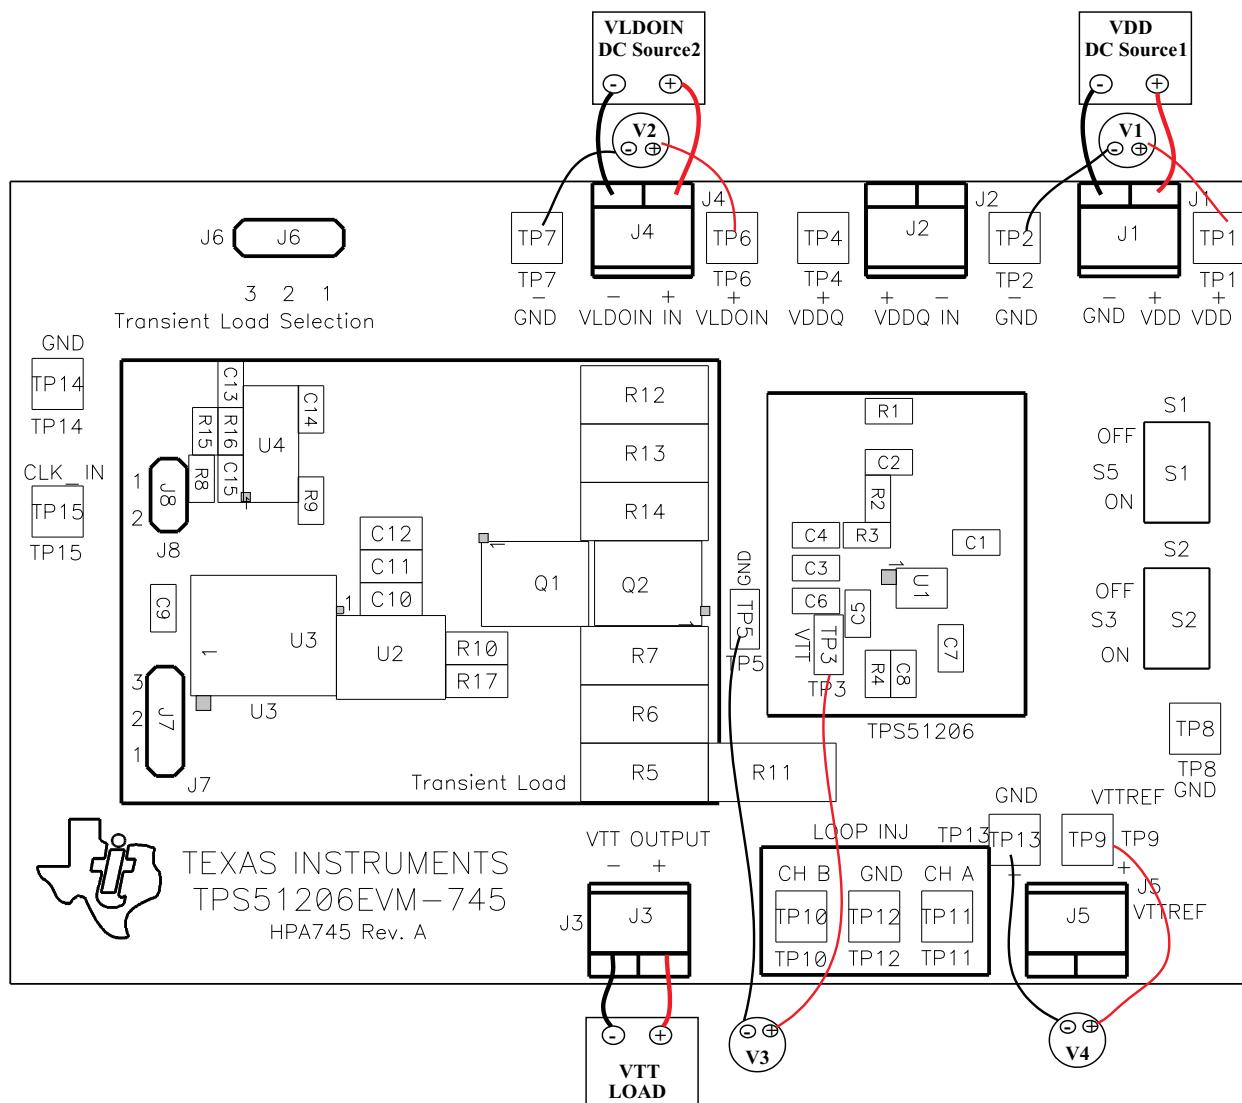

Figure 3. TPS51206EVM-745 Recommended Test Setup
Figure 3 is the recommended test setup to evaluate the TPS51206EVM-745. Working at an ESD workstation, ensure that any wrist straps, bootstraps, or mats are connected referencing the user to earth ground before power is applied to the EVM.
1. Set up EVM as described in Section 4 and Figure 3.